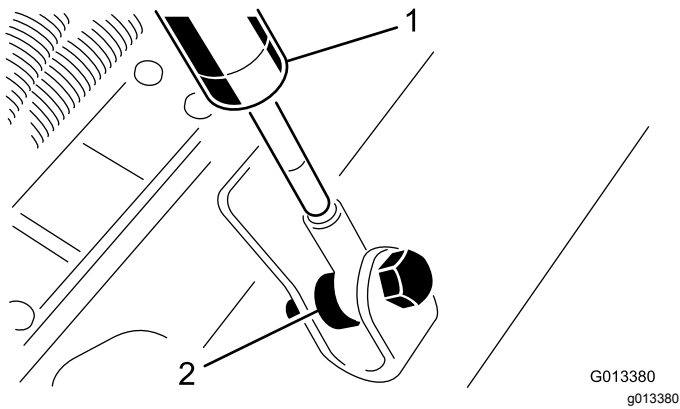

Figure 6
10. Remove the bolts, spacers, and flange nuts securing the opposite end of the dampers to the cutting unit (Figure 6).